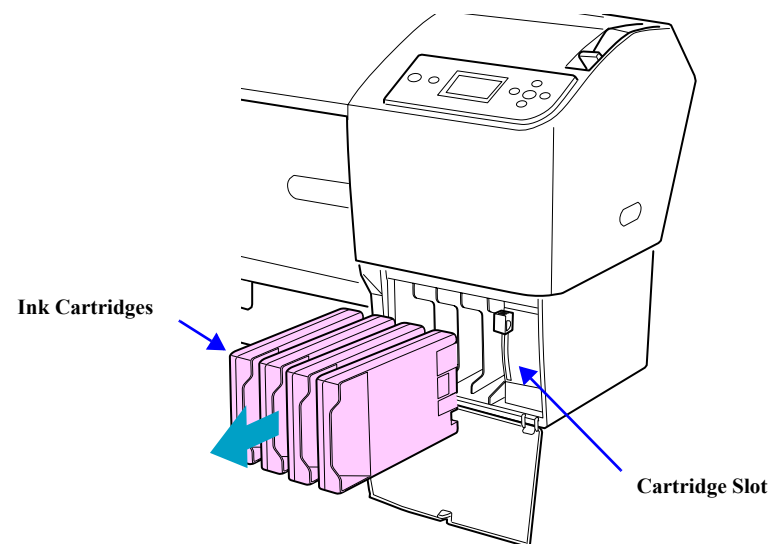

Figure 4-8. Removing the Ink Cartridges
3. Remove the all Ink Cartridges from the left and right Cartridge Slots. *See Figure 4-8.*